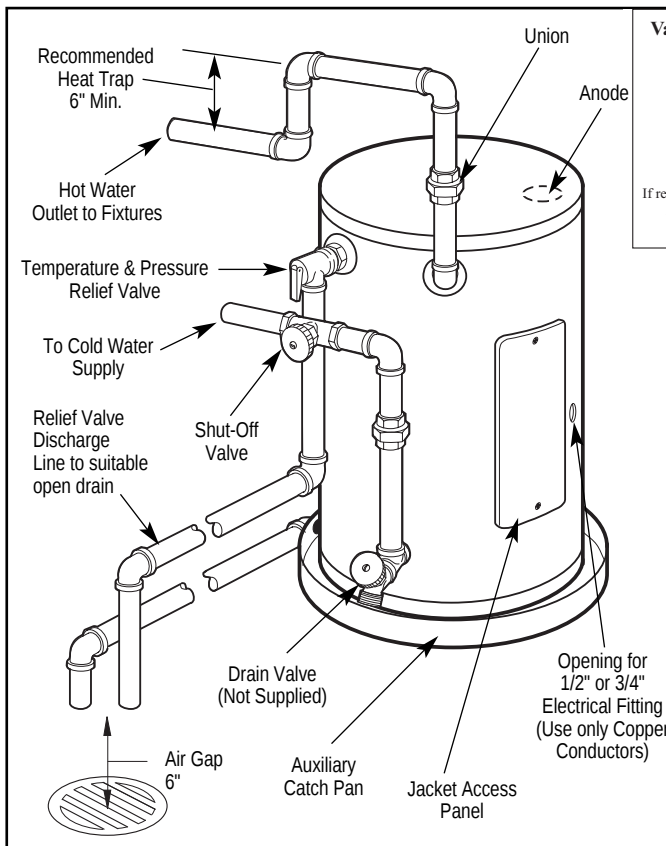
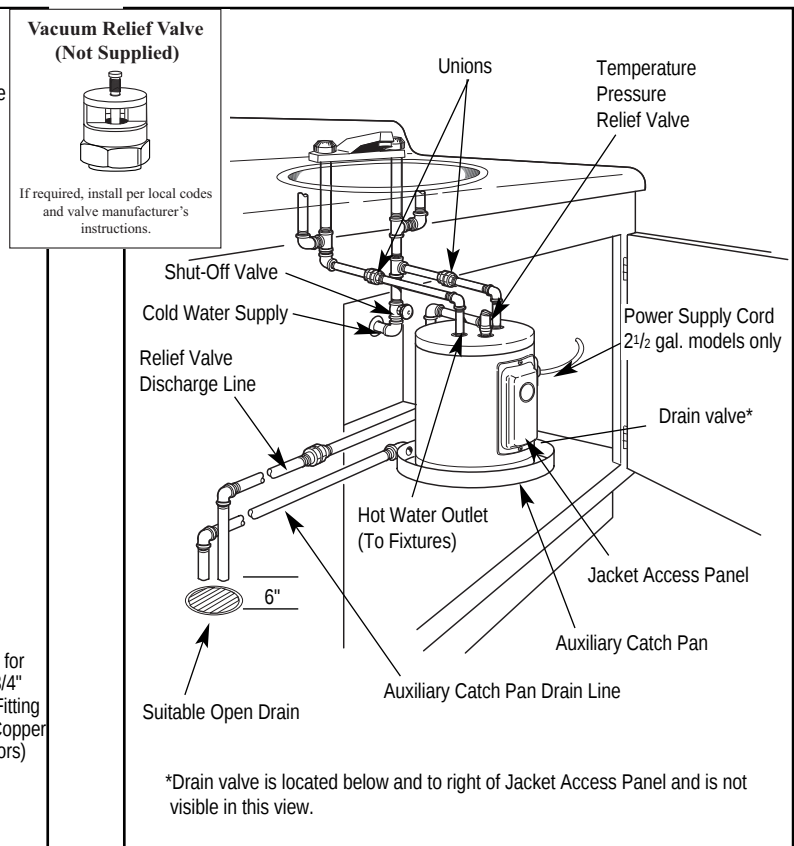

Figure 2. — Typical Side Connect Installation
Figure 3. — Typical Under Counter Top Connect Installation
3. **WATER SUPPLY CONNECTIONS** — Refer to Fig. 2 or 3 for suggested typical installation. The installation of unions or flexible copper connectors on the water connections is recommended so that the water heater may be easily disconnected for servicing if necessary. Connect cold water supply line to 3/4" pipe connection near the bottom of water heater. (Refer to Figure 2.) Install a shut-off valve and a drain valve (not supplied) in the cold water line near the water heater (Refer to Fig. 2.). Connect hot water line to 3/4" pipe connection marked HOT on the side near the top of the water heater. On some models, the hot and cold water connections are 1/2" pipe connections and are located on top of the heater. (Refer to Figure 3.) A drain valve is supplied on these models. Local codes may require an Anti-Siphon device on the water inlet of a side connect water heater.
4. **RELIEF VALVE** — A new combination pressure and temperature relief valve, complying with the Standard for Relief Valves and Automatic Gas Shutoff Devices for Hot Water Supply Systems, ANSI Z21.22, must be installed in the opening provided and marked for the purpose on the water heater. (Refer to Fig. 2 or 3.) No valve of any type should be installed between the relief valve and the tank. Local codes shall govern the installation of relief valves.